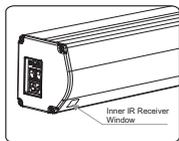

Figure 28
2. When there's nothing blocking the IR window, you can use the remote to control up/pause/down (Figure 28).